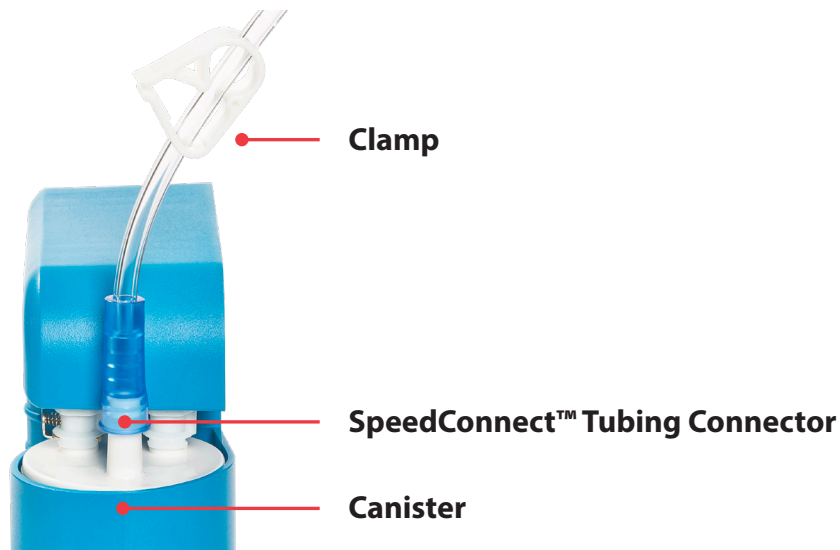

Figure 14
2. Connect the distal end of the SpeedConnect™ Tubing with the blue tapered connector to the patient port of the Canister (**Figure 14**). Gently twist and push the connector on just enough to secure and seal it.